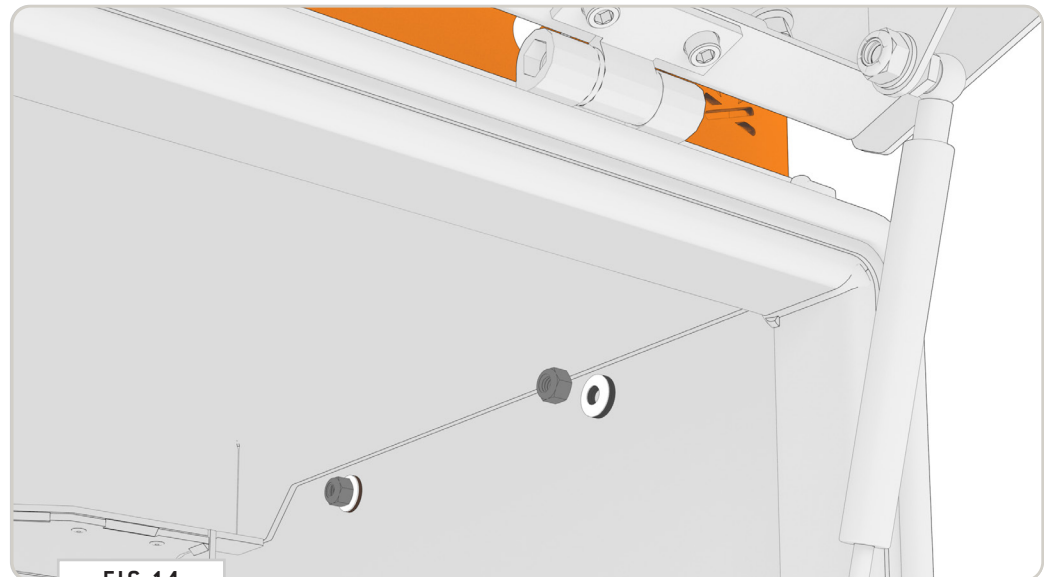

FIG 14
3.8 Secure Lower Mounting Holes: Open the Storage Box and secure using a 1/4" Bonded Sealing Washer and Nylon Locknut (FIG 14).